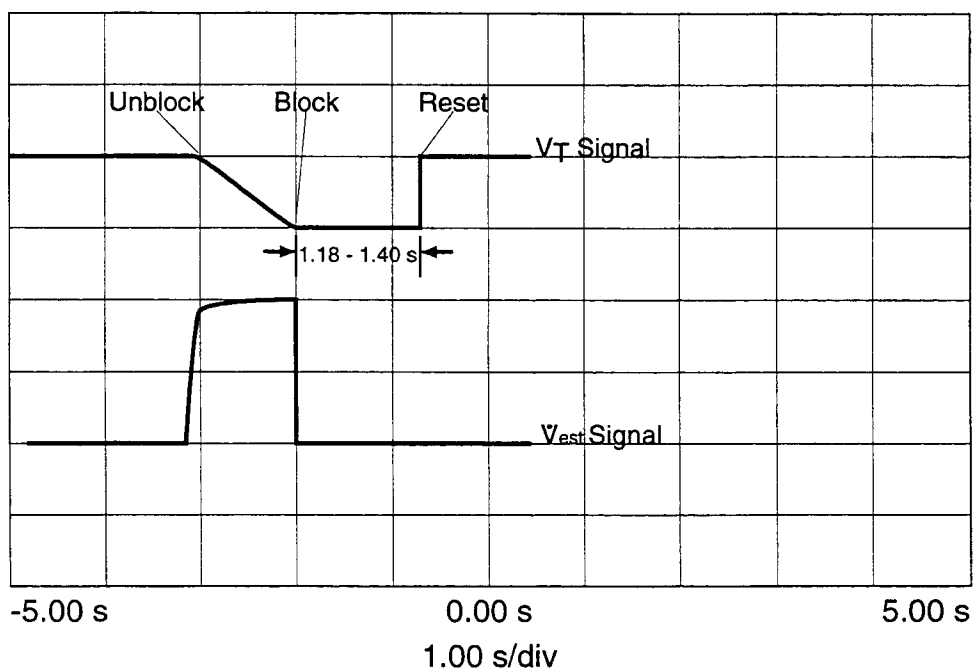

Figure 7-8. Spontaneous Mode.
- Step 4 See Figure 7-8 for oscilloscope traces. Unblock the orifice and watch the V_T signal ramp for approximately 1.0 seconds, then block the orifice.